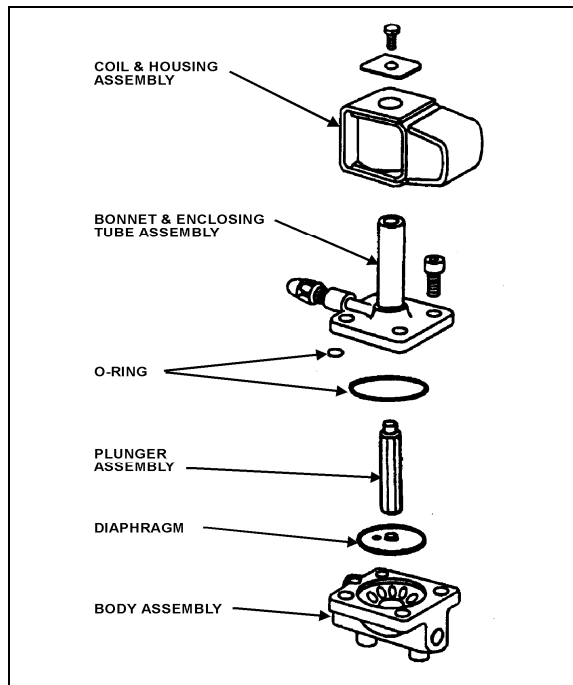

FIGURE 32: REFRIGERANT SOLENOID VALVE
3. Remove the four socket head screws which hold the body and bonnet together (figure 32).